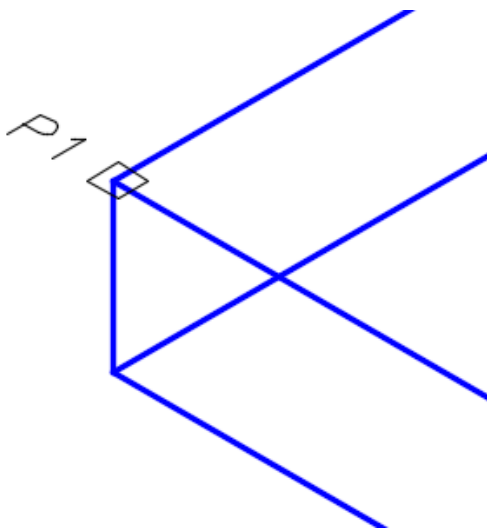

Figure Step 6A
Step 6 Enter the BOX command, as shown below, to add a box to the model. (Figure Step 6A and 6B).